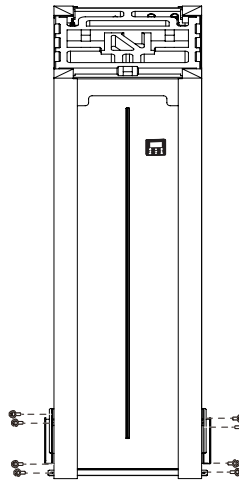

Fig.2-5
- A metal sheet protects the unit from the sides. Remove the 8 screws and pull the metal sheet carefully (Refer to Fig. 2-5).